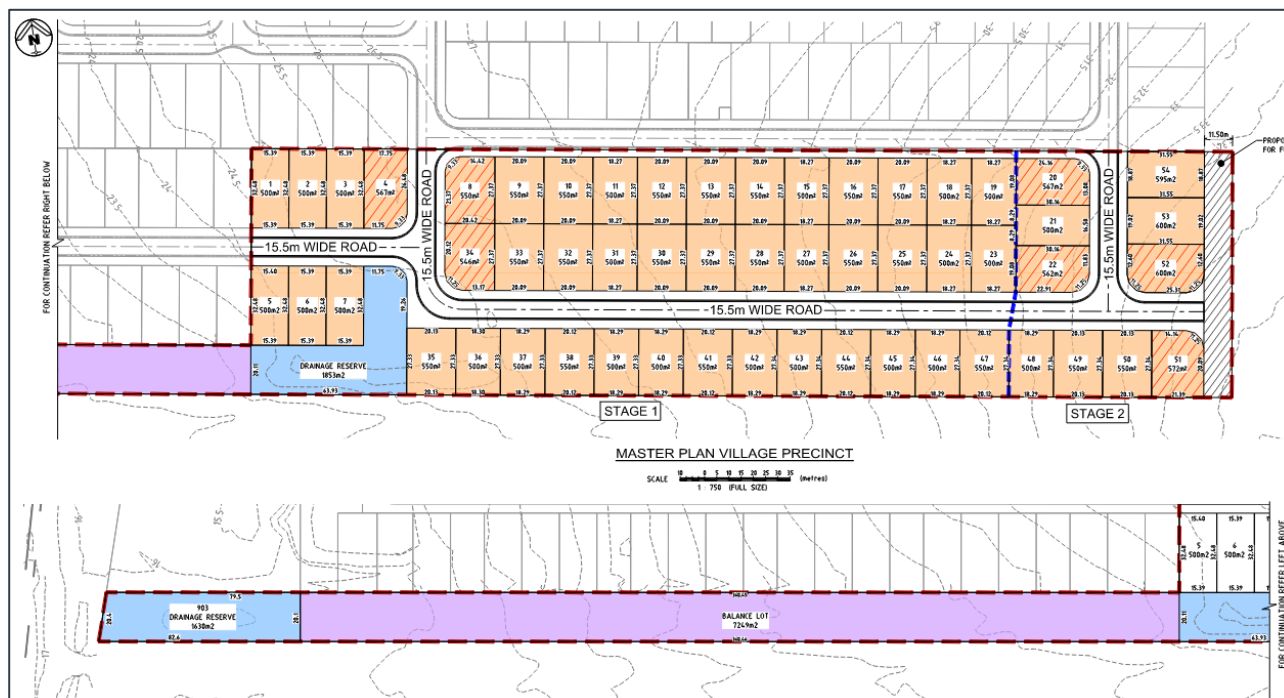

Figure 3.1 Subdivision Proposal Plan
The subject site is proposed to be reconfigured and developed from one (1) into fifty-seven (54) lots, along with a Drainage Reserve and Bioretention Basin. The proposed development layout is shown below in Figure 3.1, and on the Masterplan prepared by Burchills Engineering Solutions (Drawing No. BE230588-SK01-G) which is included in Appendix A of this report. See also Appendix B which contains the full Concept Civil Engineering Plans.